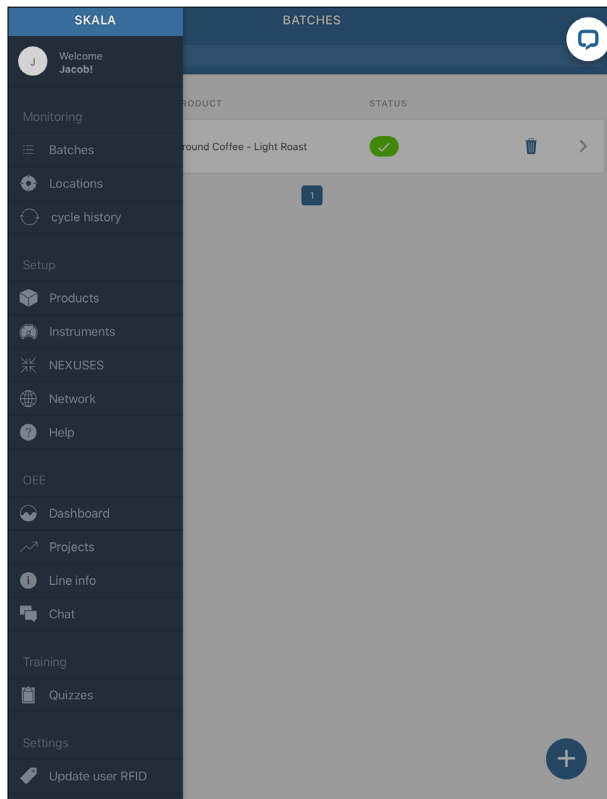

Figure 46 Batches window
3. Select the plus symbol on the Batches screen to add a Batch (Figure 46). This will open the Batches screen (Figure 47).